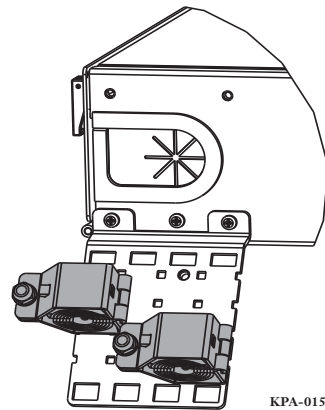

Figure 6 — Install Universal Cable Clamp
Step 1: Attach the UCC clamshell to the strain-relief bracket as shown in Figure 6 to allow installation of a second UCC if necessary.